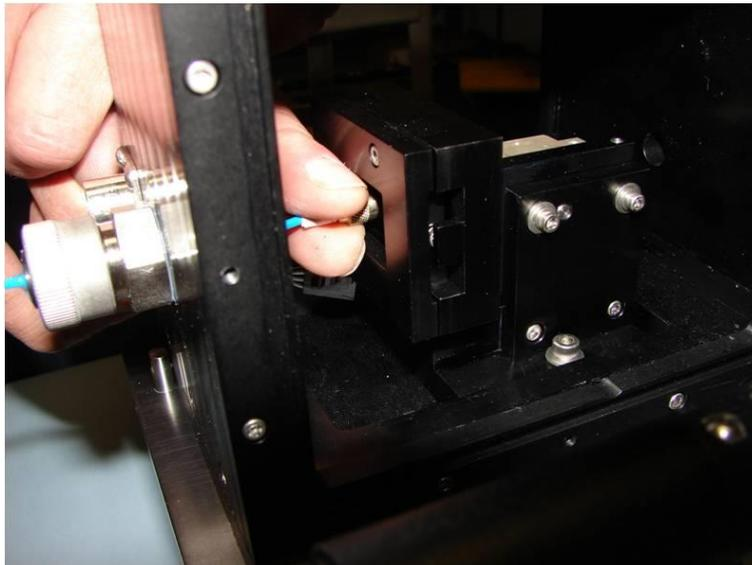
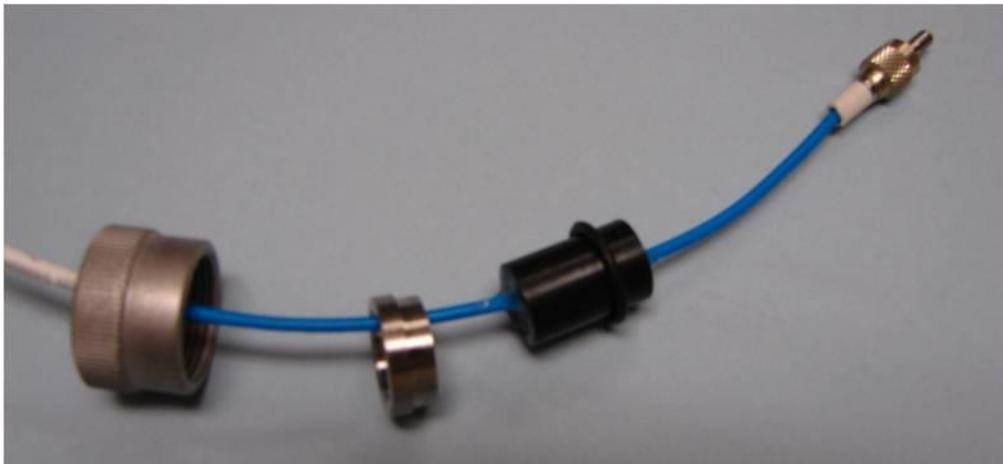

Figure 16: Unscrewing SMA Connector
Figure 17: Components of Fiber Passthrough
- 4.7. Disconnect the SMA fiber connection from the pump optics inside the laser crystal chamber. Look inside the crystal chamber with a light to see the SMA fiber connector screwed onto the fitting. Using both index fingers, reach in and unscrew the nut, as shown in Figure 16. Avoid twisting the optical fiber or bending any section of it into a radius of less than 6 cm. After about 6 turns, the nut will be loose and the puck around the fiber can be pulled back and out of the UltraTorr fitting; Figure 17 shows the items integral to the fiber passthrough. Once the fiber is loose, place a cap on the